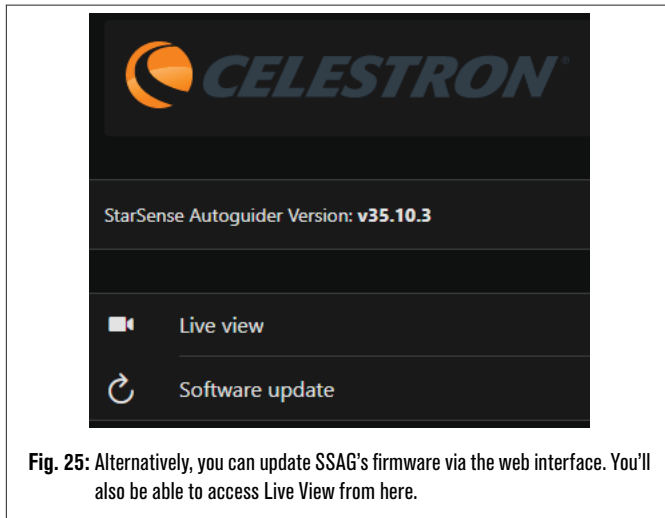

Fig. 25: Alternatively, you can update SSAG's firmware via the web interface. You'll also be able to access Live View from here.
3. Open a web browser on your computer and enter <http://169.254.54.1/> to launch the SSAG web interface page (Fig. 25).